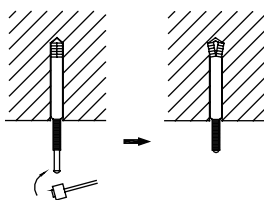

Fig.2
- (1) Insert the anchor bolt M10 to the hole then nail the iron nails into the bolts. The distance between holes is shown in fig.2. The installation of the anchor bolt is shown in fig.3.